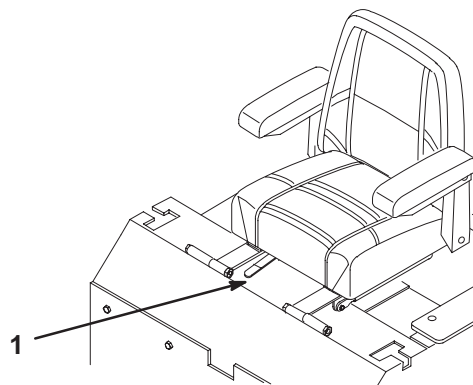

Figure 27
1. To adjust, move the lever sideways to unlock seat (Fig. 27).